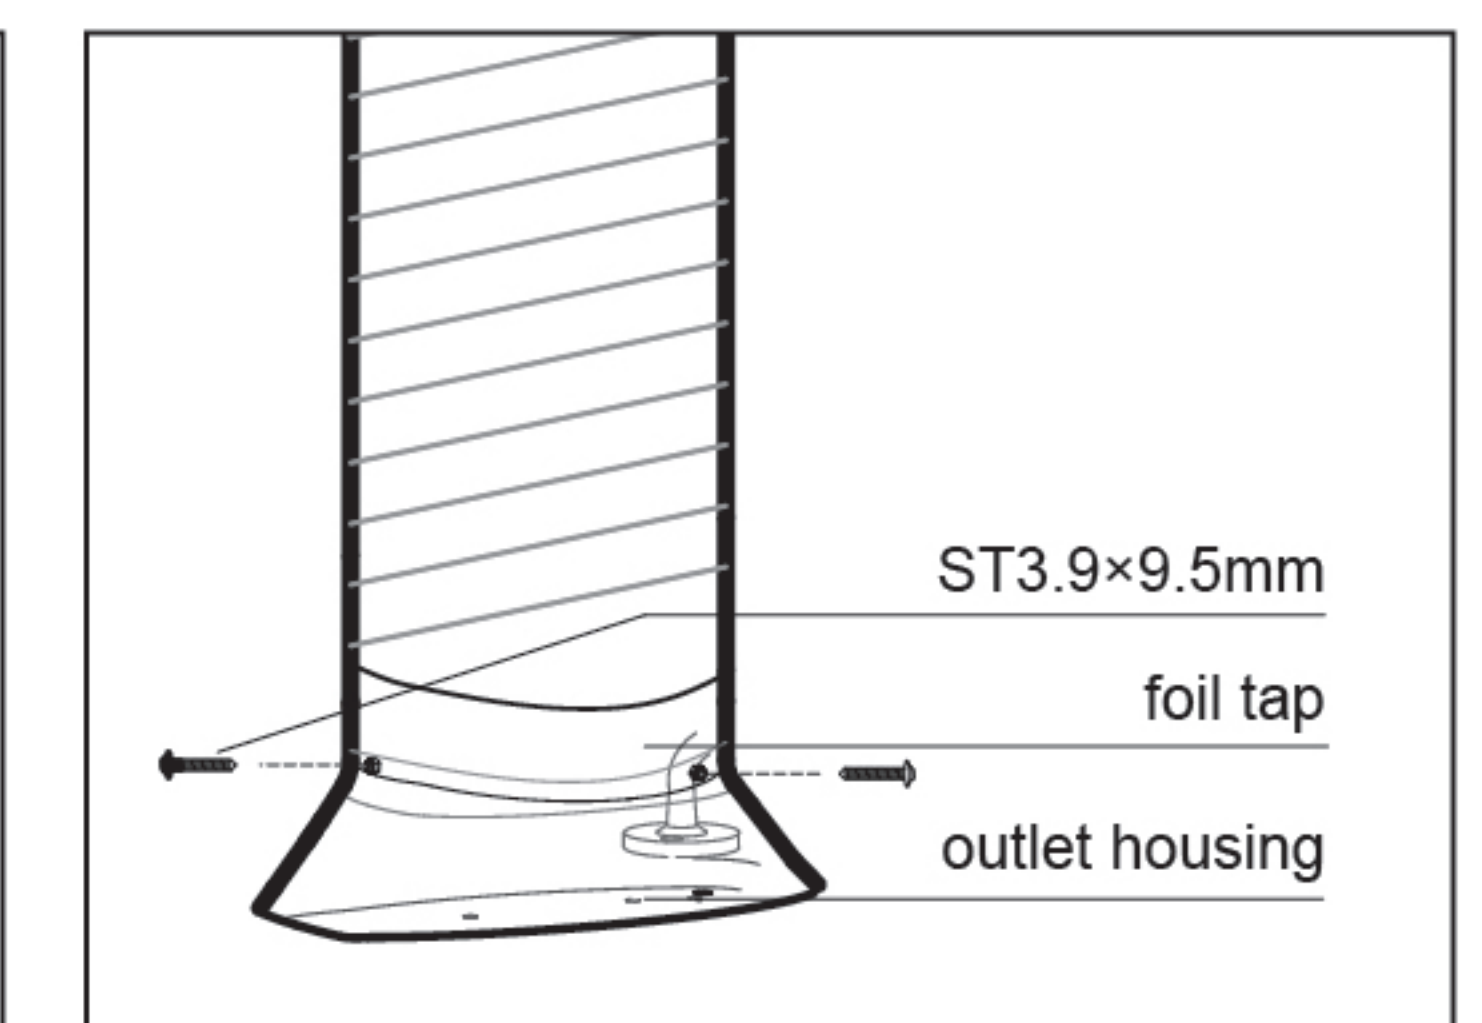

fig12
7. Connect the exhaust duct: cut off the redundant exhaust duct or connect the smoke tube according to the actual distance, put the smoke tube into the outlet housing, then pre-fix the exhaust dust with two screws ( $\text{ST}3.9 \times 9.5$ ), and finally wrap it with foil tape for fixation and sealing; (fig12)